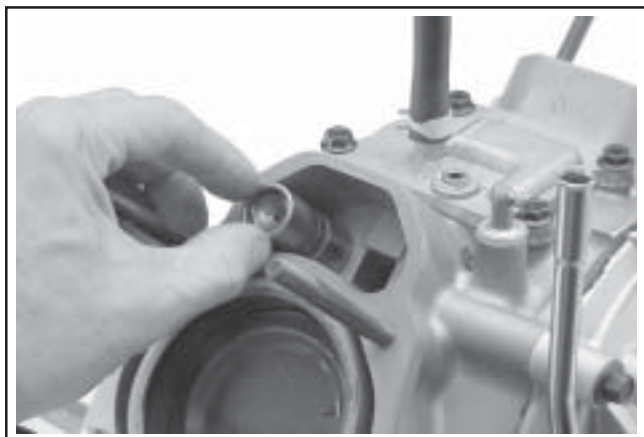

Figure 11-29. Installing Lifters.
2. Install the lifters into their respective lifter bores according to location and cylinder number marked during assembly. See Figure 11-29.